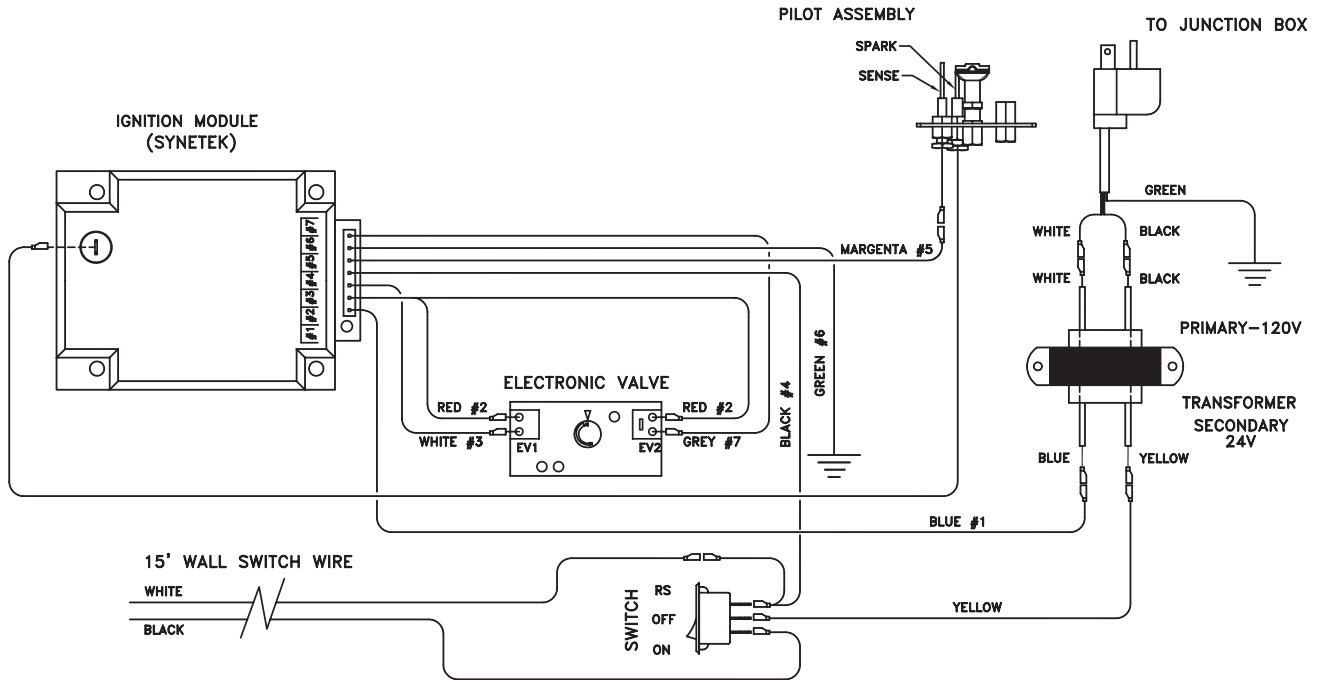

Figure 38 - Remote Wall Switch Wiring Diagram
2. Connect the wire terminal from the remote receiver. This replaces the 15' wall switch connection to the switch. *Figure 38*.